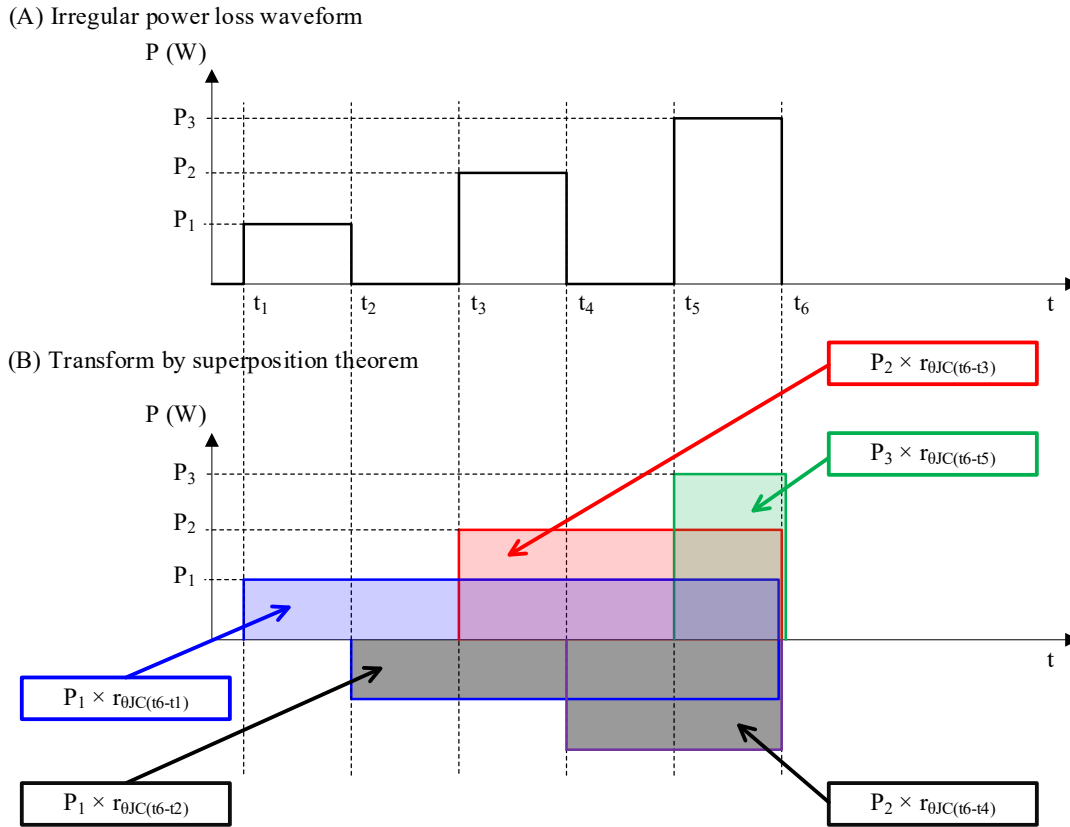

Figure 3-5. Superposition Theorem
(A) in Figure 3-5 shows the calculation of the junction temperature,  $T_J$ , when an irregular square wave power loss occurs in the power MOSFET/IGBT. As shown in (B) in Figure 3-5,  $T_J$  for each block is calculated by using the superposition theorem.